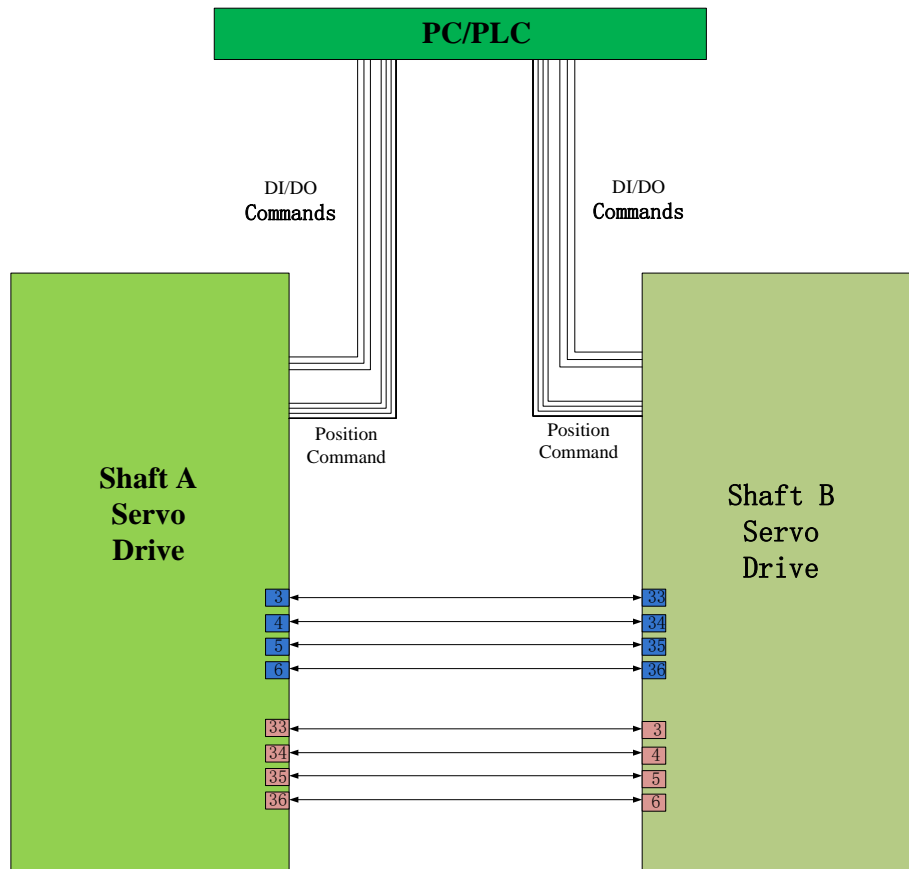

Fig 6.4.40 Gantry Synchron typical application wiring diagram
- ★ Refer to the wiring instruction of Fig 6.4.40, connect DI/DO;